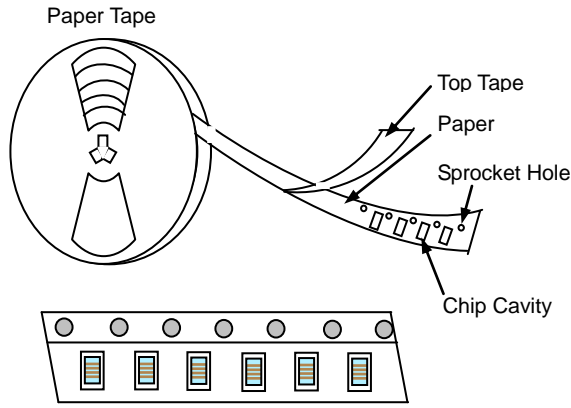

Fig. 6.1-1
- i. Tape carrier packaging are specified in attached figure **Fig.6.1-1~5**